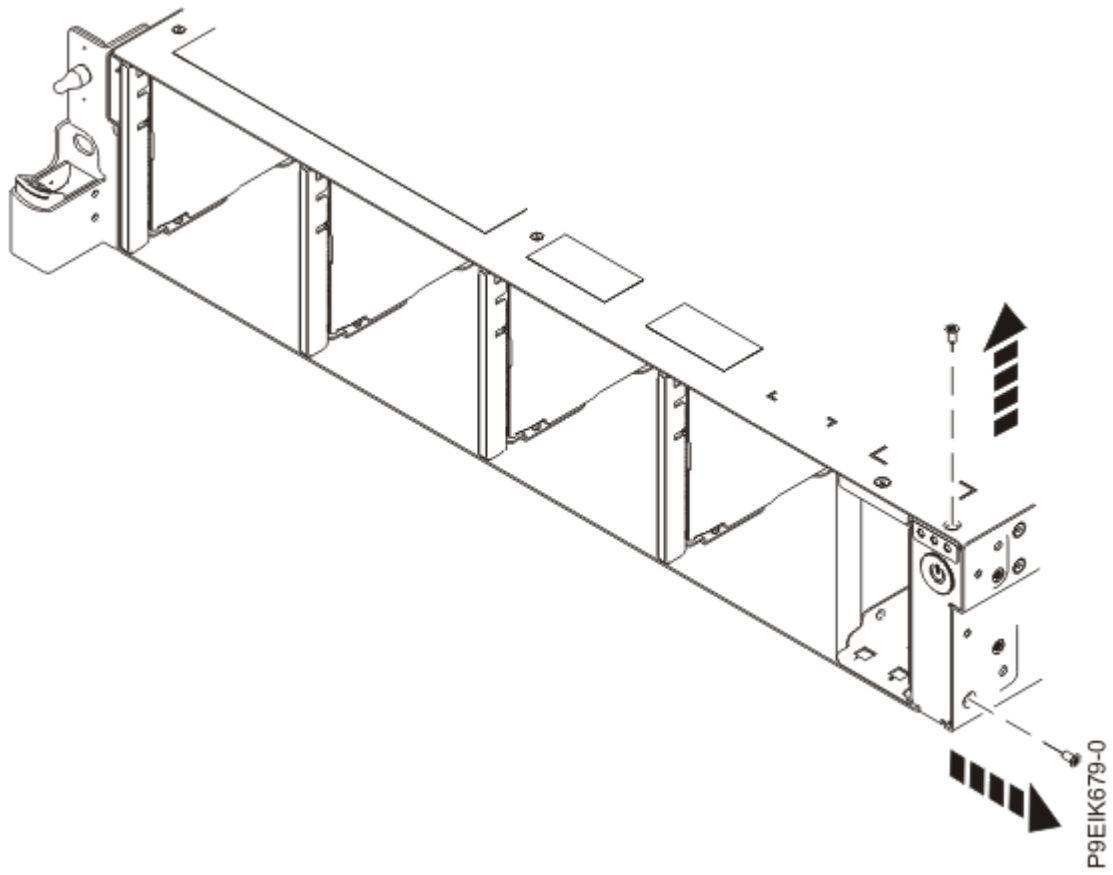

Figure 37. Remove the top and side screws
5. Remove the top and side screws from the power switch as shown in Figure 37 on page 51.